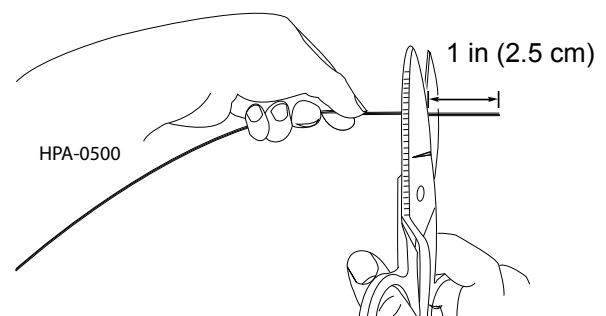

Figure 13
Step 5: Use scissors to trim 1 in (2.5 cm) from the end of the fibers. The fibers are now ready to be cleaned and terminated (Figure 13).